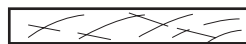
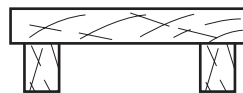

Fig. 13
Fig. 14
- (ii) Fig. 13 and Fig. 14 show two cross-sections of two ways of making the wooden seat. [3]
Explain why the section shown in Fig. 14 is more structurally sound than the section shown in Fig. 13.